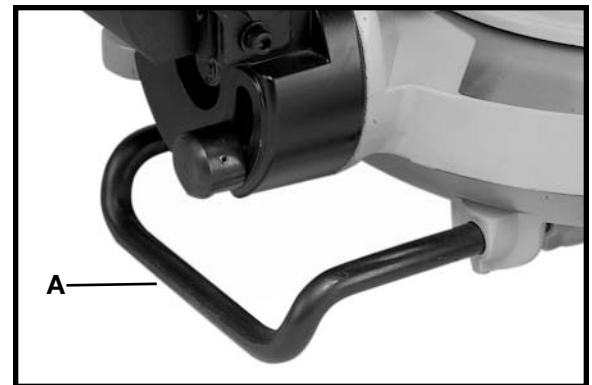

Fig. 29B
A rear support bar (A) Fig. 29B is provided to prevent the machine from tipping to the rear when the cuttinghead is returned to the up position. For maximum support the bar (A) should be pulled out as far as possible.